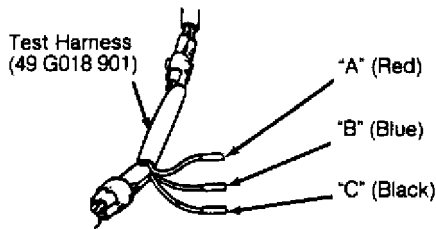

Fig. 11: TP Sensor Test Harness Terminal ID (B2200 PFI, B2600i & MPV 2.6L)
2) Turn ignition on. Ensure throttle valve is fully closed. Using a voltmeter capable of measuring voltage variations of .01 volt, measure voltage at Red and Black wires of test harness. See Fig. 11.